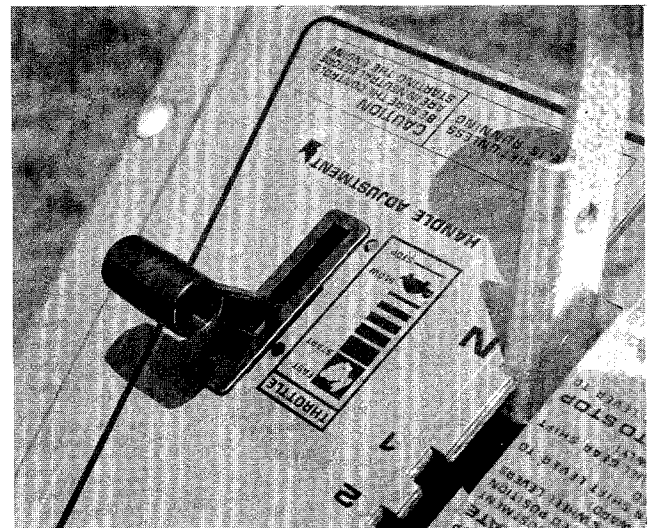

FIGURE 16.
1. Start—Push throttle control lever forward (down) to start position. See figure 16.